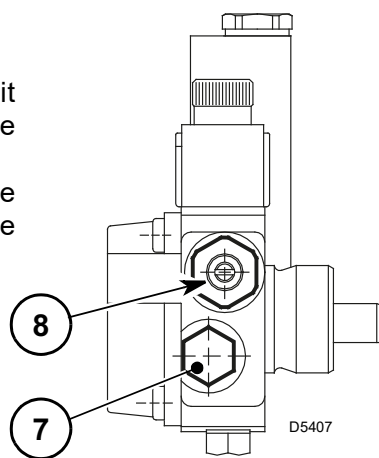

Fig. 16
The pressure control pressure gauge should be mounted in place of the plug (7), (as in Fig. 16).